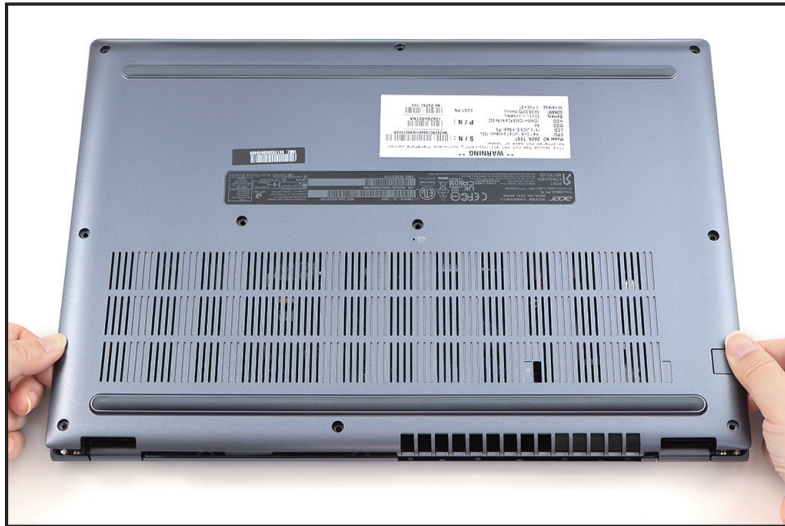

Figure 1-6. Base Cover Removal
3. Grasp and remove the base cover from the system (Figure 1-6).